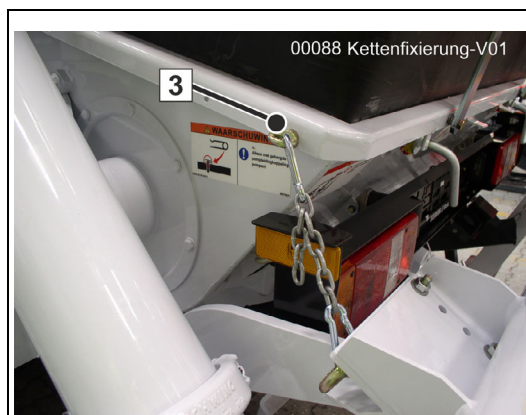

Fig. 164 Chain fastener
- Secure the underride protection using the chain fastener on the left-hand side of the hopper (3) (**Fig. 164**).